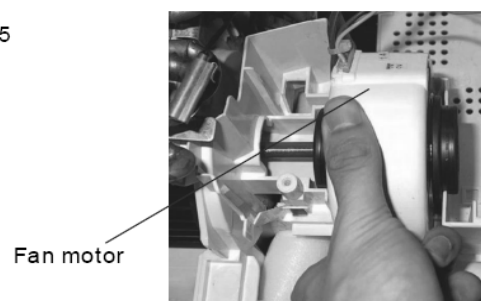

Fig 15
4. Lift up the indoor fan slightly, and then pull the fan motor out. Fig15